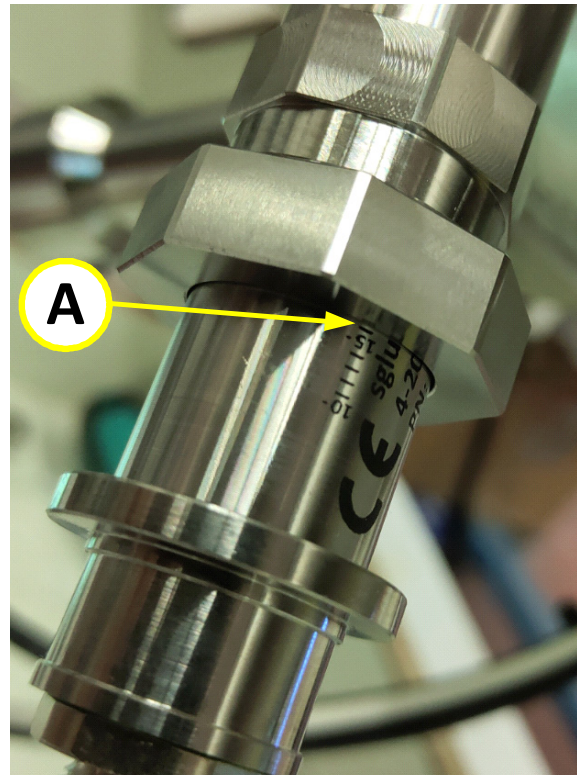

Figure 10-21: Using mm scale as position reference
- Step 1.** Before removing the UVIS sensor, look at the point where the millimeter scale on the sensor touches the securing nut (**A** in **Figure 10-21**).
- Step 8.** When you return the sensor to its place, make sure to insert it to the same reference point on the mm scale (**A** in **Figure 10-21**) recorded in **Step 1.** on page **10-144**.